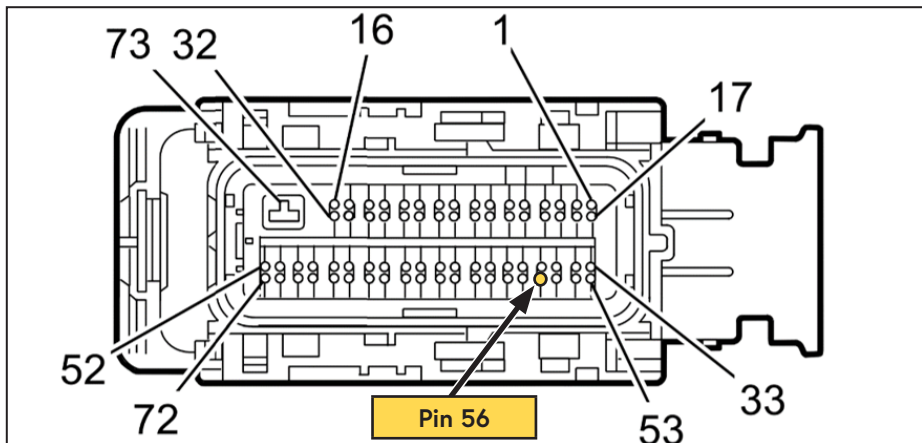

Figure 7 — ECM connector X2 (connector "face" view)
- Locate the 2 light green wires in the X2 ECM connector. (Figure 7).